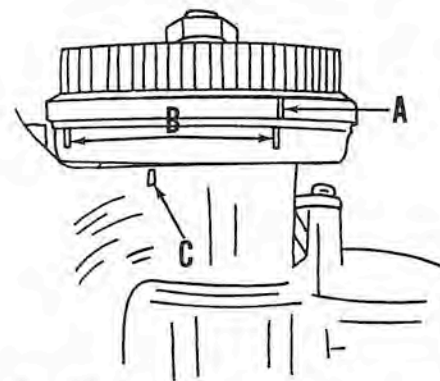

Fig. J89—Assembled magneto showing the three sets of timing marks. Refer to text for timing details.
A spark is induced in the magneto high tension circuit the moment the points open and interrupt the primary current flow. Four sparks must be induced (each 90° apart) with each complete revolution of the magneto. The points should be timed to open the instant that the flywheel timing mark (A—Fig. J89) aligns with either of the timing marks (B) on breaker plate. Point opening for the other two cylinders is controlled by the shape of the breaker cam, and will be correct after adjusting each set of points.
light as shown in Fig. J87. With flywheel timing mark (A—Fig. J89) aligned with the first breaker plate timing mark, loosen the breaker point clamp screw slightly and turn the adjusting screw until the points close and lamp lights. Turn adjusting screw in opposite direction until the instant the lamp goes out; then tighten clamping screw. Turn flywheel until flywheel timing